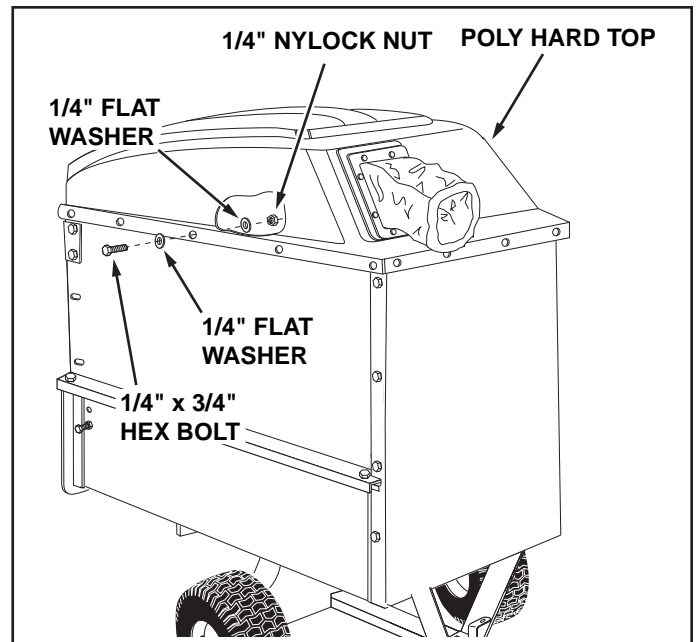

FIGURE 14
24. Install the poly hard top using fourteen 1/4" x 3/4" hex bolts and 1/4" flat washers on the outside and fourteen 1/4" flat washers and 1/4" nylock nuts on the inside. **Tighten**. See figure 14.